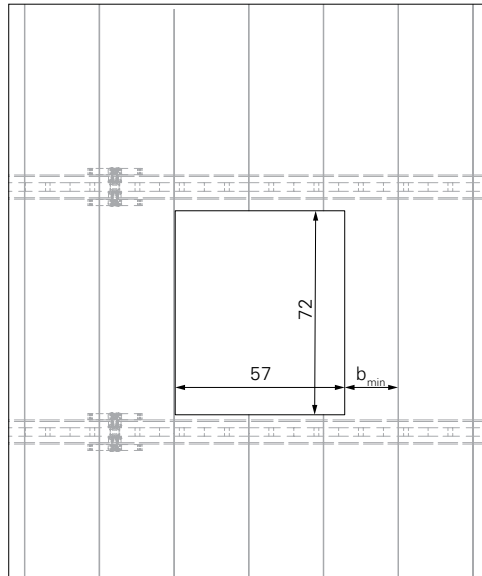
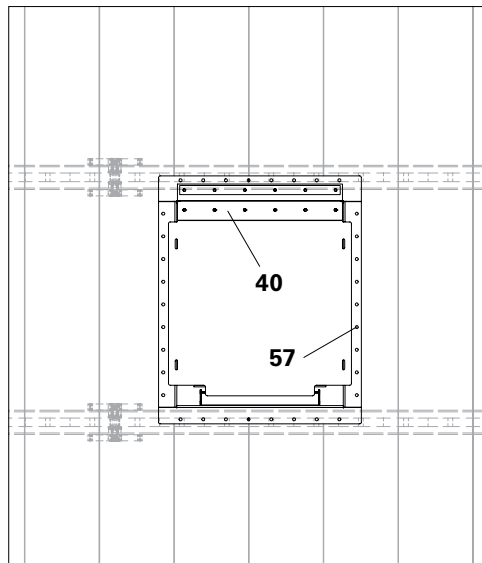

Fig. B3.05
Fig. B3.06
1. At the assembly position, cut out one opening. Opening: 72 x 57 cm. (Fig. B3.05)
2. Place hatch (40) in the opening.
3. Screw the hatch frame to the platform decking using screws TSS-Torx 6 x 40 (57). (Fig. B3.06)